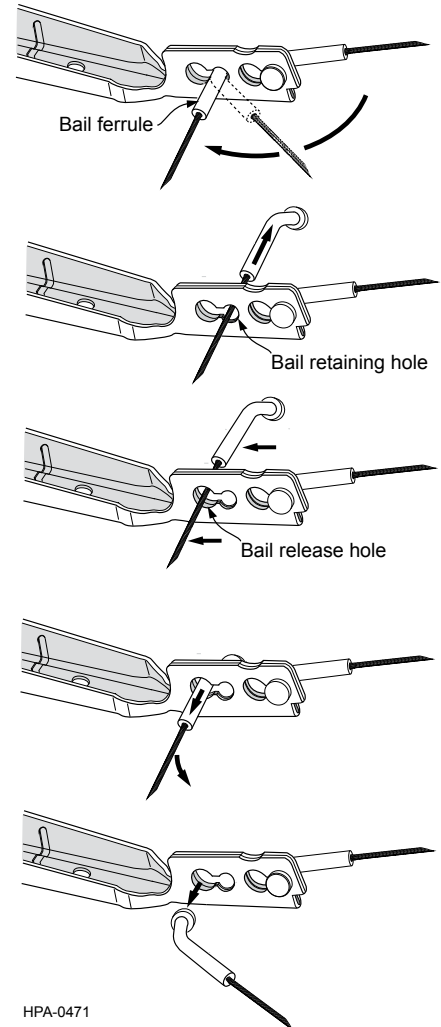

Figure 3
- Step 3:** If the pole hardware you are using has a closed eye, the bail must first be opened (Figure 3):